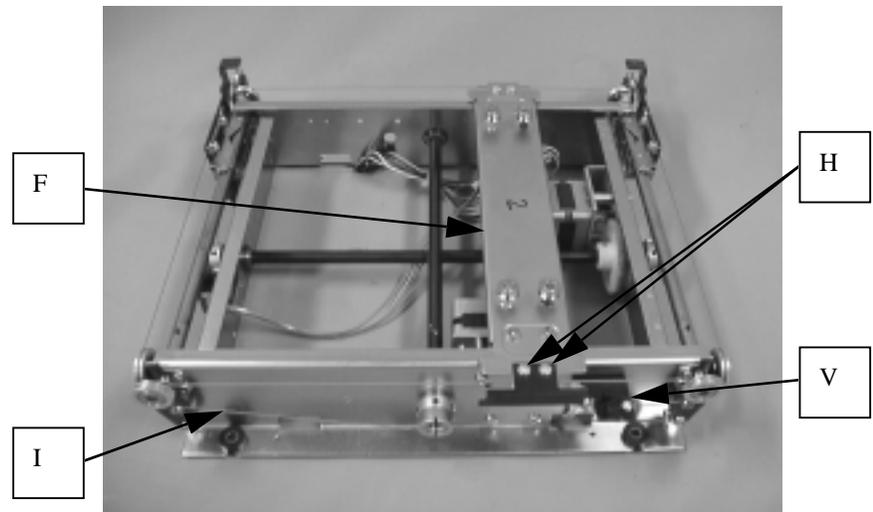

FIGURE 14-8
17. Fix the right and left wires (I) and Y-carriage (F) by setscrews (H) as shown in Fig. 14-8. Tighten Y-shield plate (F) together with Y-carriage on the Y-sensor side (V).